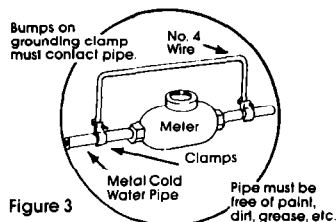

Figure 3
*Grounded cold water pipe must have metal continuity to electrical ground and not be interrupted by plastic, rubber or other electrical insulating connectors such as hoses, fittings, washer or gaskets (including water meter or pump). Any electrical insulating connector should be jumped as shown in Figure 3 with a length of No. 4 wire securely clamped to bare metal at both ends.